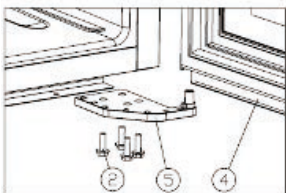

Figure 2
- Unscrew the M5*16screws ②, dismantle the right lower hinge ③.[Figure 2]